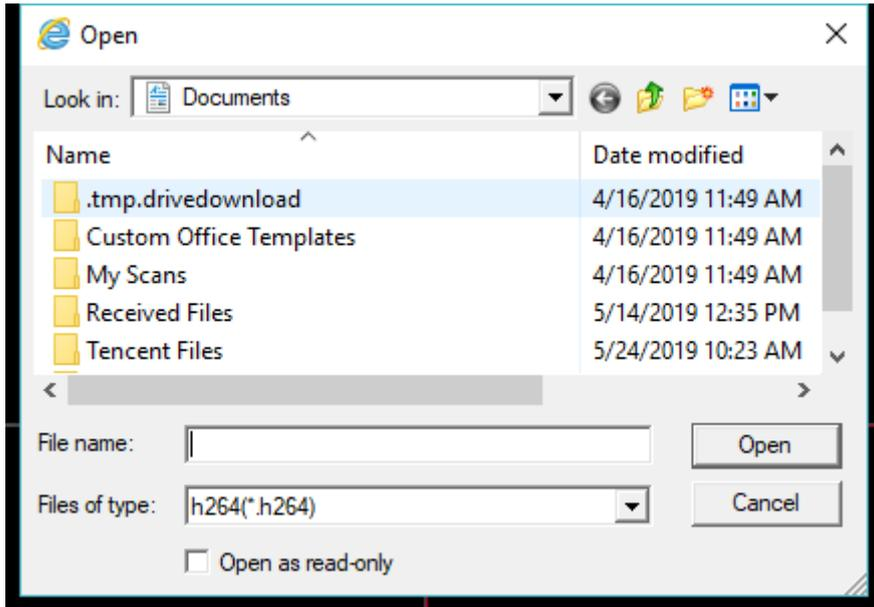

Figure 5.9
- ✓ Click on , to browse local recorded file. Interface as shown in Figure 5.9.